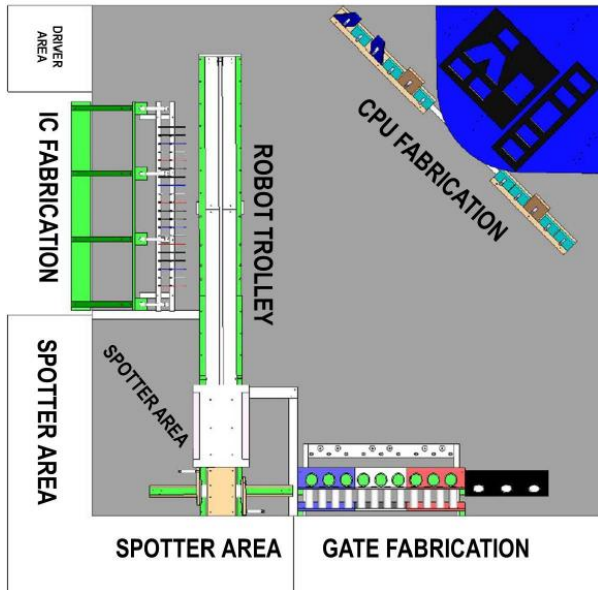

Figure 1.1
- **The Game Field:** Field consists of four quadrants (red, green, yellow, and blue) arranged in a 24' x 24' square. Each quadrant is 12' x 12'. There are four main areas in each quadrant: robot area, gate fabrication, IC fabrication, and CPU fabrication. 24" x 24" driver area in corner in between IC fabrication and gate fabrication area. **Figure 1.1**